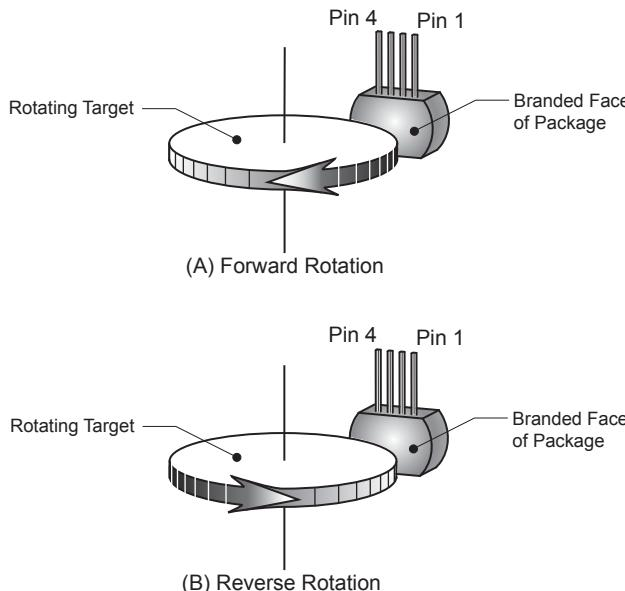

Figure 1. Target rotation
**Forward Rotation** (see panel A in figure 1) When the target is rotating such that a tooth near the package passes from pin 4 to pin 1, this is referred to as *forward rotation*. Forward rotation is indicated on the output by a  $t_{w(FWD)}$  (45  $\mu$ s typical) pulse width.
**Reverse Rotation** (see panel B in figure 1) When the target is rotating such that a tooth passes from pin 1 to pin 4, it is referred to as *reverse rotation*. Reverse rotation is indicated on the output by a  $t_{w(REV)}$  (90  $\mu$ s typical) pulse width, twice as long as the pulse generated by forward rotation.